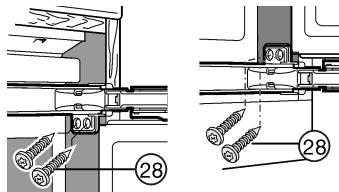

Fig. 15
- ▶ At the top and bottom of both doors with Spax screws Fig. 15 (28) passed through the hinge plates.